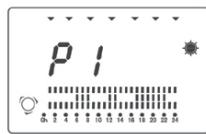

Fig. 12
- Press the Mode button once to move to the following day of the week (fig. 12)